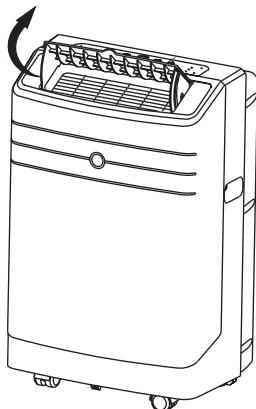

Fig. 5
- Adjust the air flow direction automatically (Fig.5):